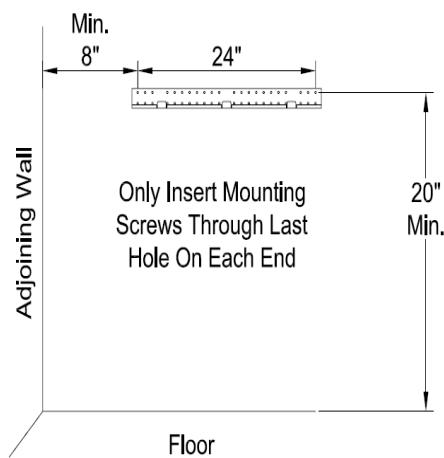

Figure 13 – Mounting Bracket Clearances
**⚠ WARNING:** Maintain minimum clearances shown in Figure 13. If you can, provide greater clearances from floor and joining wall.
2. Mark screw locations on wall (see Figure 13). If you can, provide greater clearances from floor and joining wall.